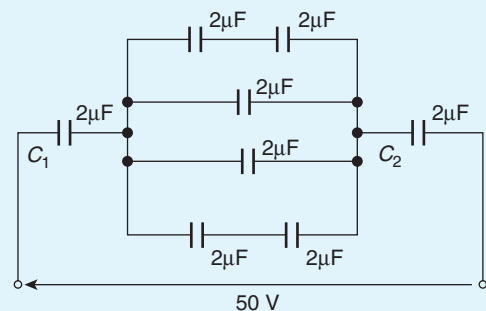

Figure 6.13
12. For the circuit shown in Fig. 6.13, determine (a) the total circuit capacitance, (b) the total energy in the circuit, and (c) the charges in the capacitors shown as C_1 and C_2